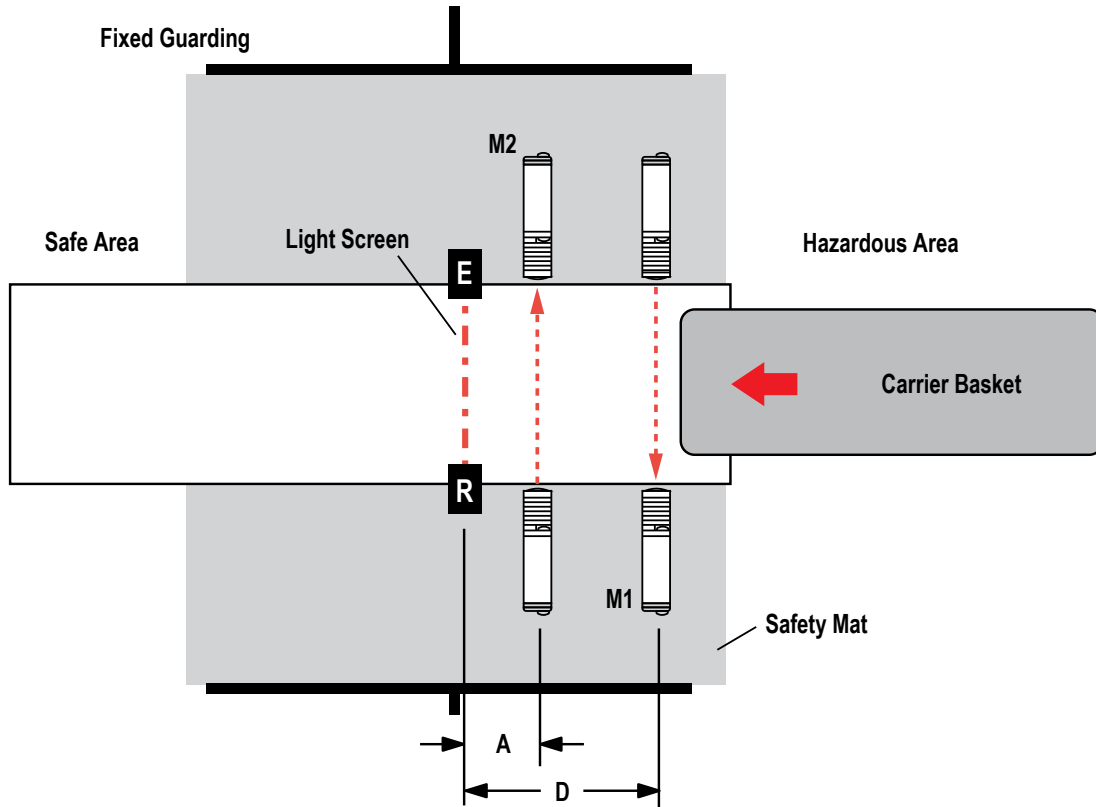

Figure 33. Exit Application with 1-Way Muting using two opposed-mode sensors (Configurations #7 and #8)
1. Verify the minimum carrier length requirement for this mute configuration. See *Entry/Exit Applications* (p. 54) and *Figure 33* (p. 56).